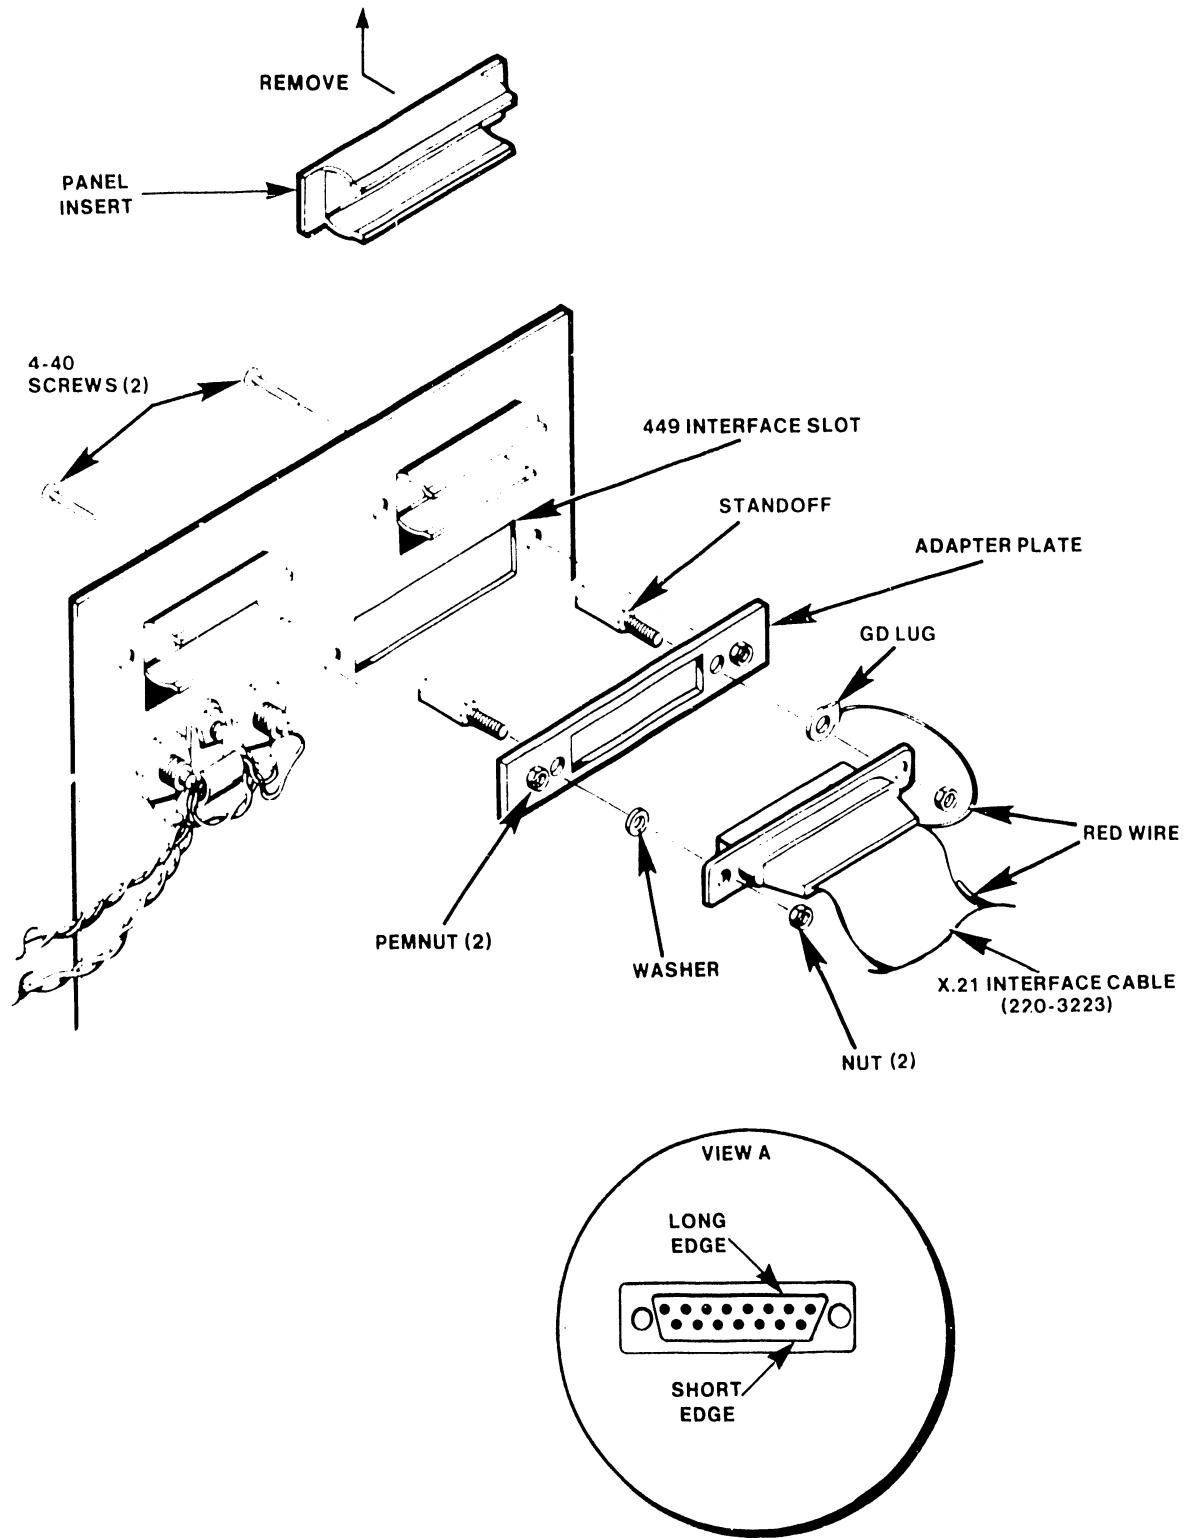

Figure 4-10 X.21 Cable To Panel Installation (Internal side)
1. Position the TC rear panel as shown in Figure 4-10 (internal side of rear panel).
3. Fit the X.21 cable "D" connector to the adapter plate. Make certain that the long edge of the "D" connector is on top (Figure 4-10).
4. Insert two threaded standoffs (P/N 478-0791) through the X.21 adapter plate (P/N 452-0274) and "D" connector screw holes. Ensure pemannuts on adapter plate are facing as shown in Figure 4-10.
5. Install the red wire ground lug on one standoff and a washer on the other standoff (Figure 4-10).